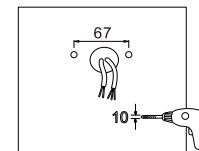

Figure 16
Step 1: Drill holes on the wall as shown. (Figure 16)